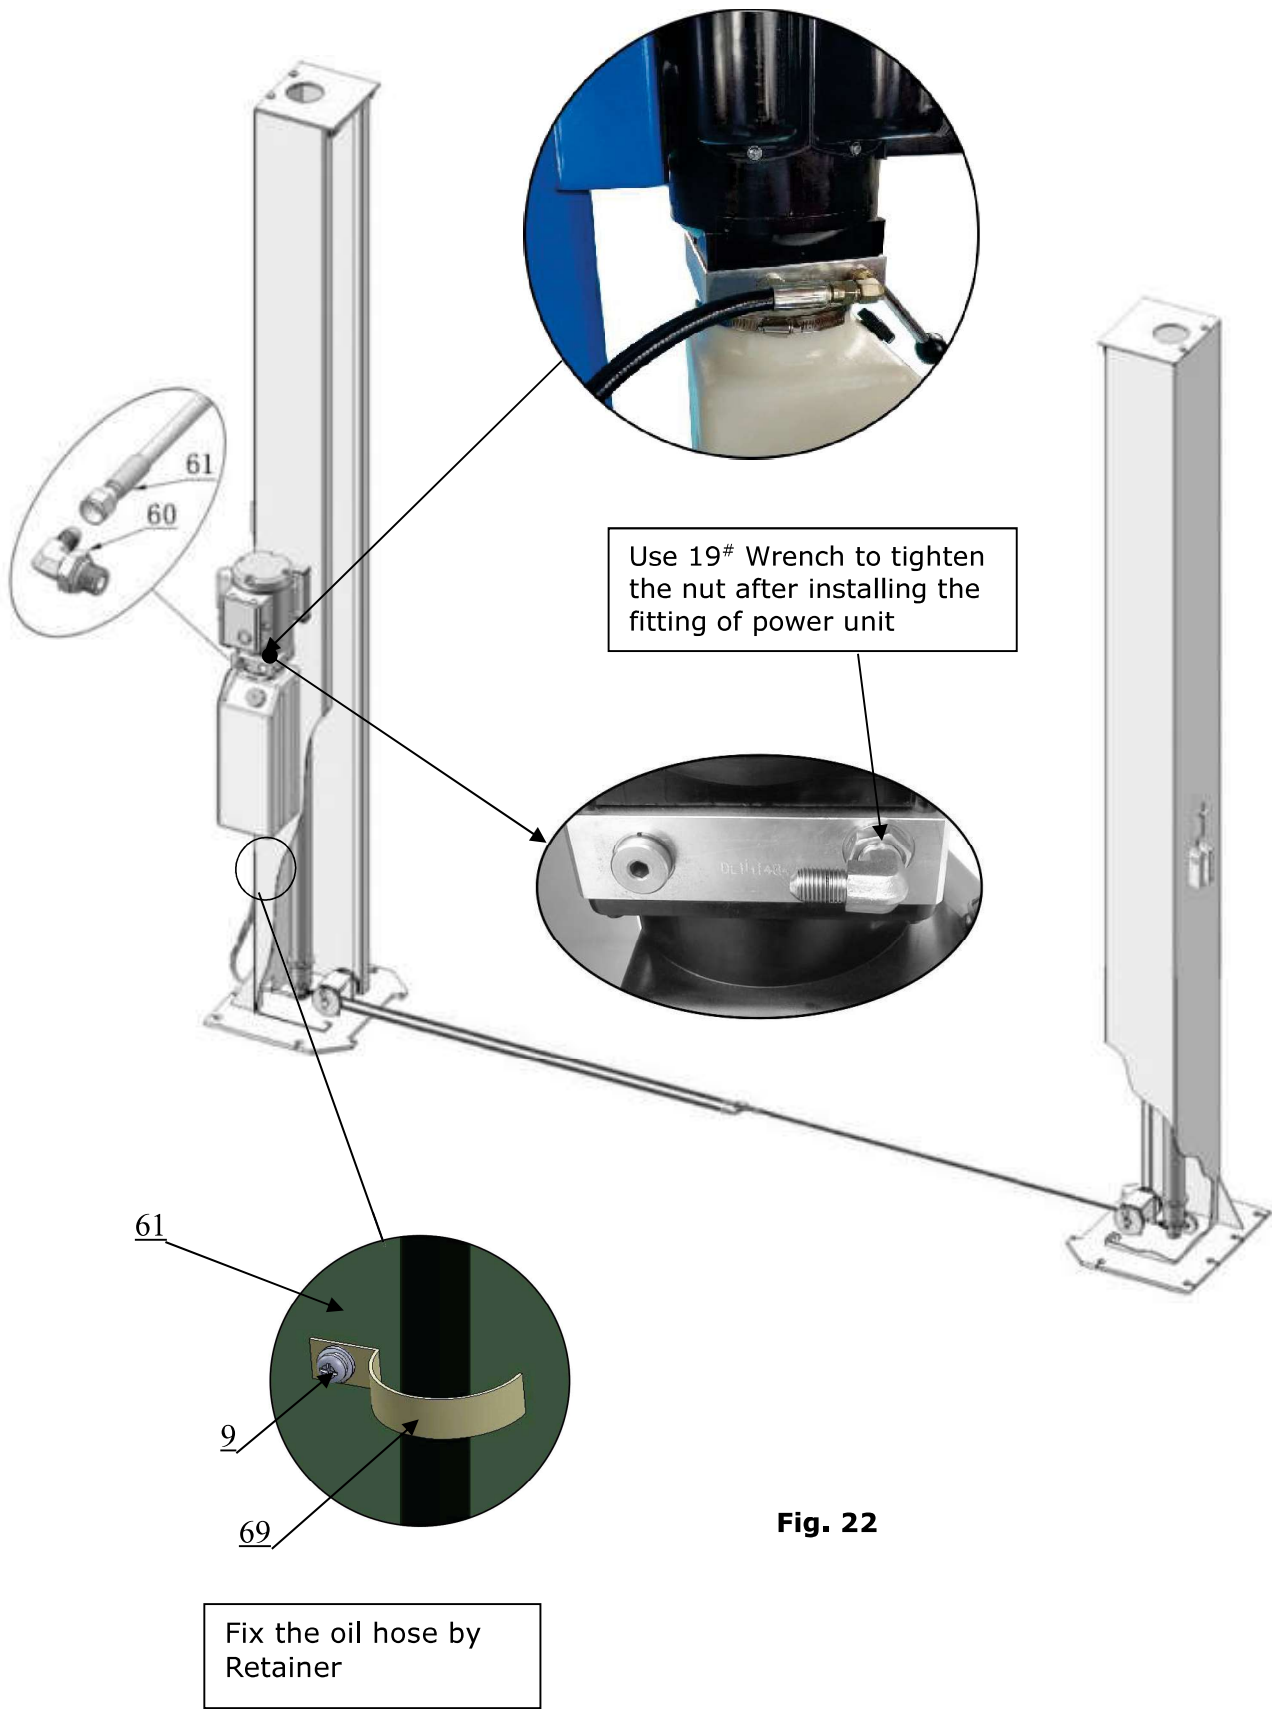

Fig. 22
K. Install power unit and oil hose (See Fig. 22)